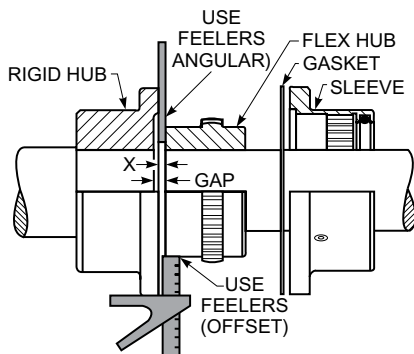

Figure 3
**4B1 — Refer to Figure 3**
**4B2 — Refer to Figure 3**